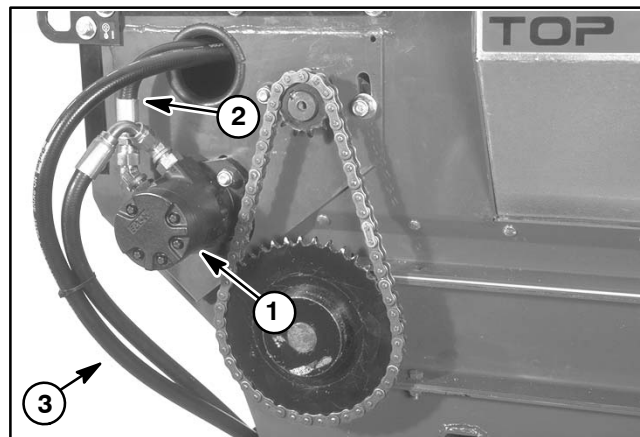

Figure 24
A. Disconnect hydraulic hose from the straight hydraulic fitting on the brush motor (Fig. 24). Install a clean steel plug into disconnected hose end.